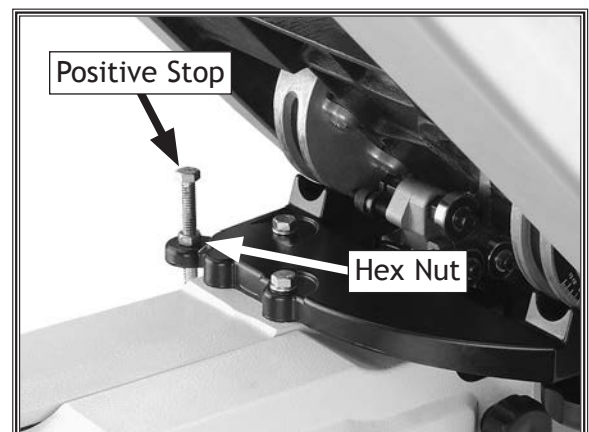

Figure 20. Positive stop (table tilted to the right for photo clarity).
5. Loosen the hex nut on the positive stop shown in **Figure 20**, then adjust the height of the positive stop until the square is flat against the table and blade.